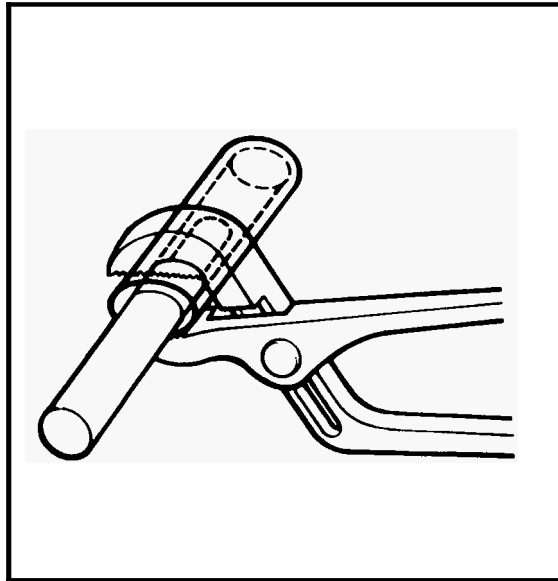

Figure 14 - Crimping The First Half Of The Splice Clip (Aluminum Wire)
- Crimp the clip firmly to the wire using 10" slip joint pliers. Do NOT solder the splice (see Figure 14).